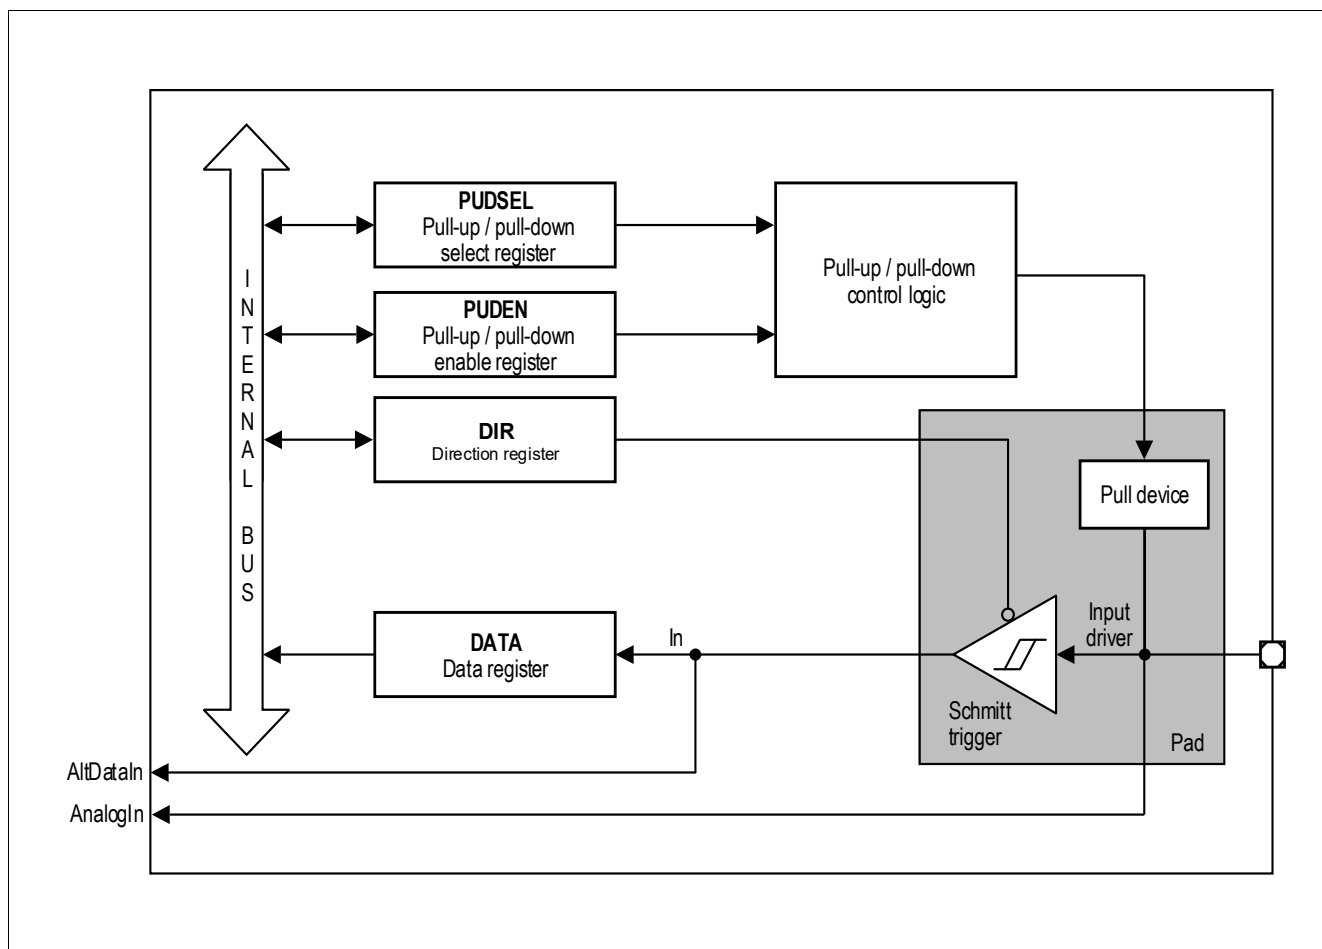

**Figure 16** General structure of a bidirectional port (P0, P1)
**Figure 16** shows the block diagram of a TLE9879QTW40 bidirectional port pin. Each port pin is equipped with a number of control and data bits, thus enabling very flexible usage of the pin. By defining the contents of the control register, each individual pin can be configured as an input or an output. The user can also configure each pin as an open-drain pin with or without an internal pull-up/pull-down.